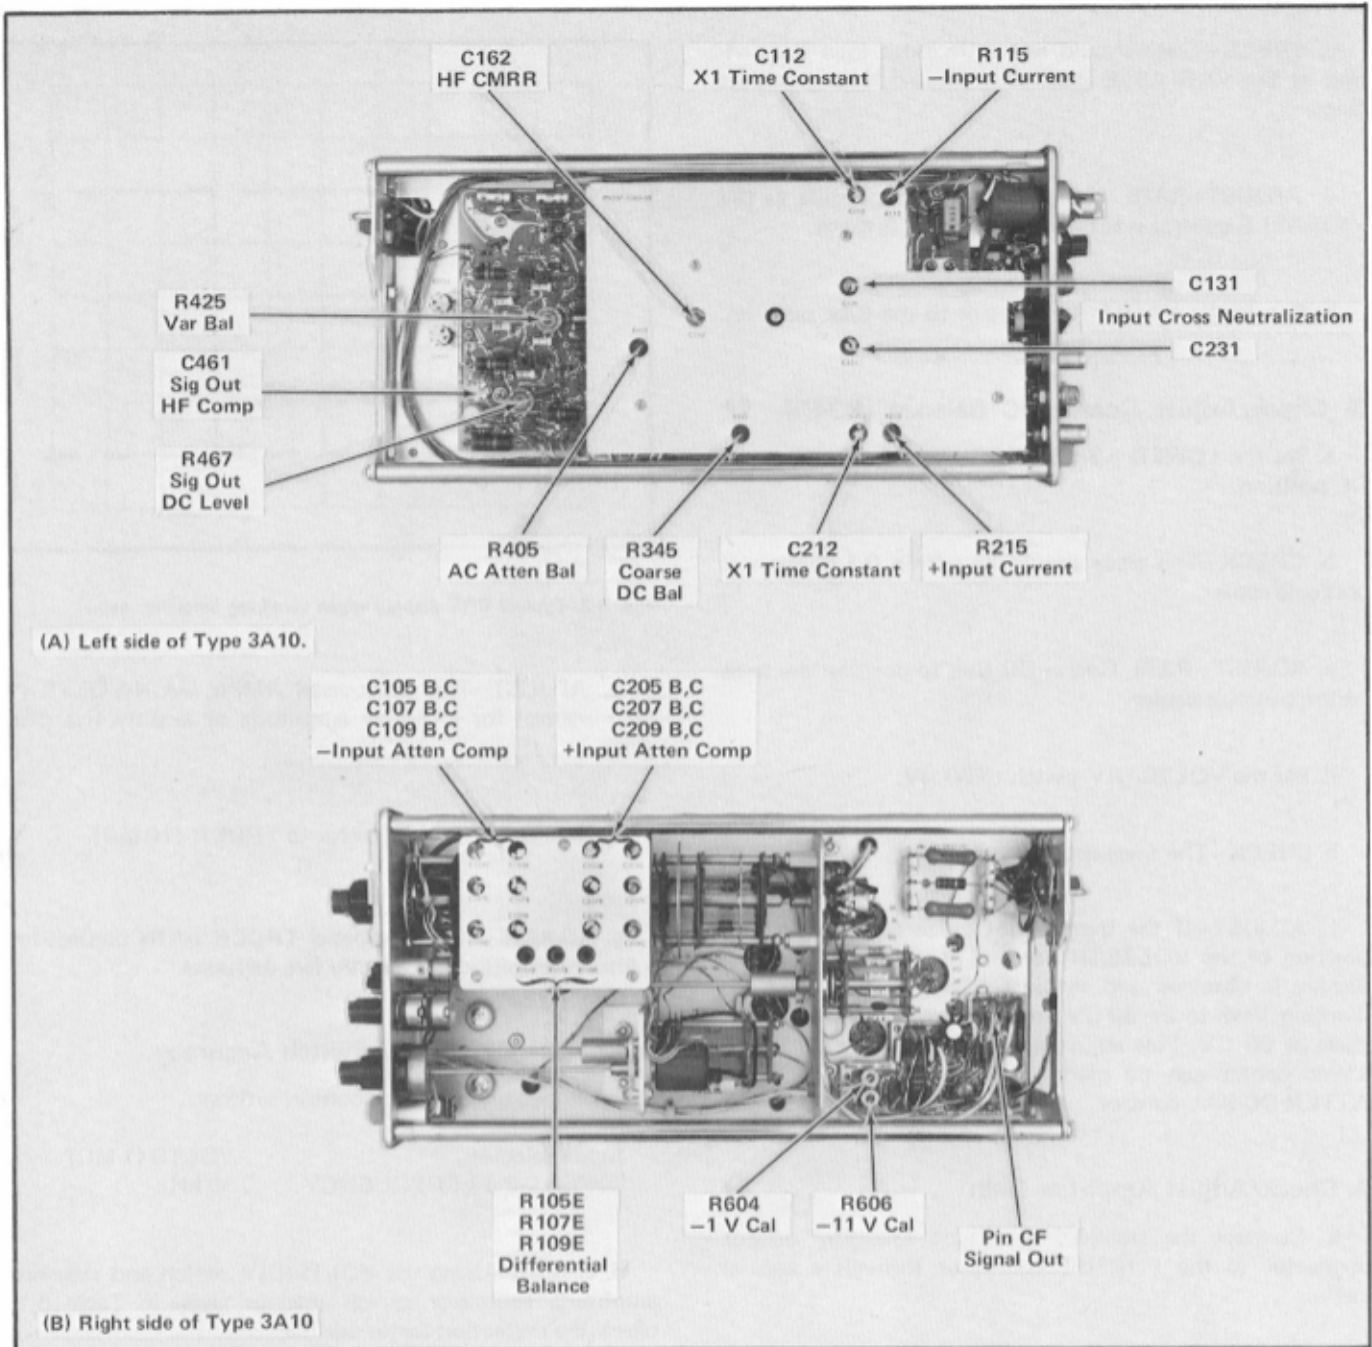

Fig. 5-1. Location of internal controls and test points in the Type 3A10.
5. Internal controls and test points are shown in Fig. 5-1.